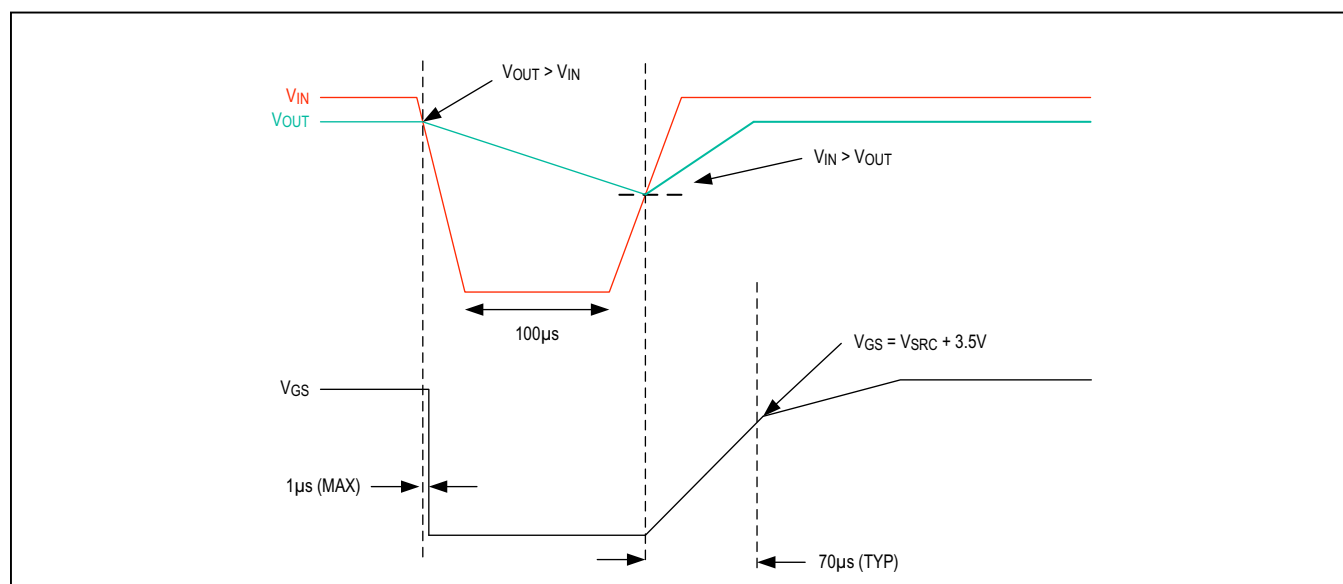

Figure 4. Short Power Interruption and Recover
In an automotive environment, systems usually experience brief power interruptions where the main supply is shorted to ground. The power interruption may last for several seconds; and the only source of power to system load is the output capacitance. To ensure fast recovery, an auxiliary input (V_{CC}) helps keep the MAX16141/MAX16141A standby mode for 100μs (typ). When the main supply input (IN) recovers, the MAX16141/MAX16141A initiate a fast recovery mode that allows the gate to reach its peak voltage within 70μs (typ). See Figure 4 for more detail. Therefore, brief power supply interruptions will not affect operation of the load, as long as the load-side